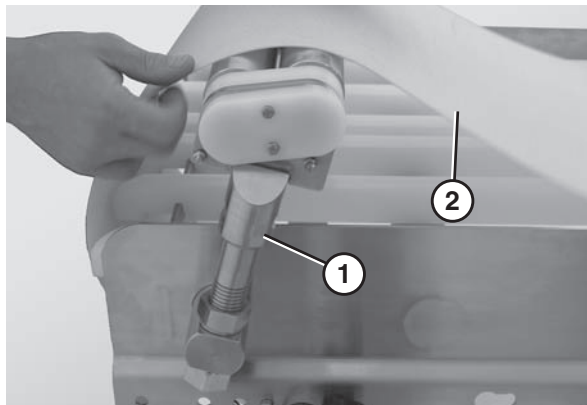

Figure 42
2. Place the tip up tail (**Figure 42, item 1**) in the up position.
3. Lift up on the belt (**Figure 42, item 2**).